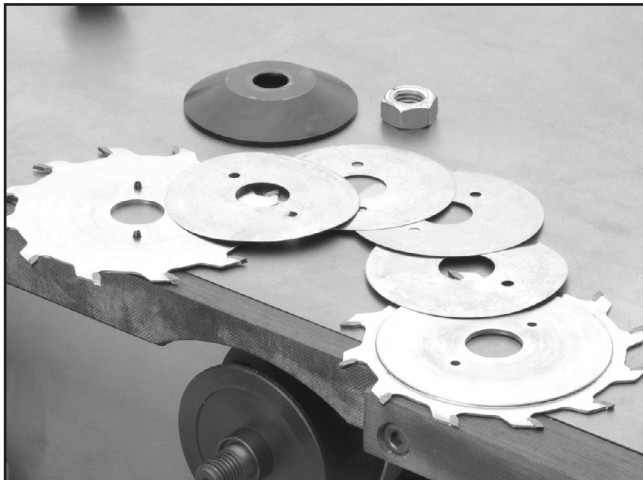

Figure 38. Typical scoring blade with shims.
4. Measure the thickness of the main blade (at the carbide tips). Use the shims that came with the scoring blade set (**Figure 38**) to stack the scoring blade to the same thickness as the main blade.